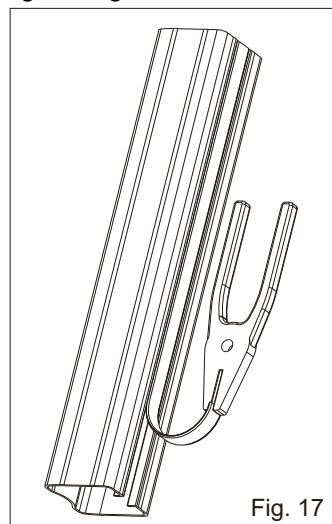

Fig. 17
2.10. Remove the pull tongue from the shaft-cover (Fig 17) and mount it on the operator through the two tie-rods without excessively tightening the two cover-nuts (Fig 18).